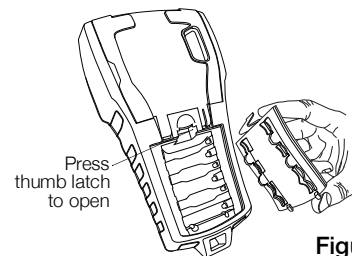

Figure 3
- 1 Press the thumb latch on the back of the label maker to remove battery compartment cover. See Figure 3.